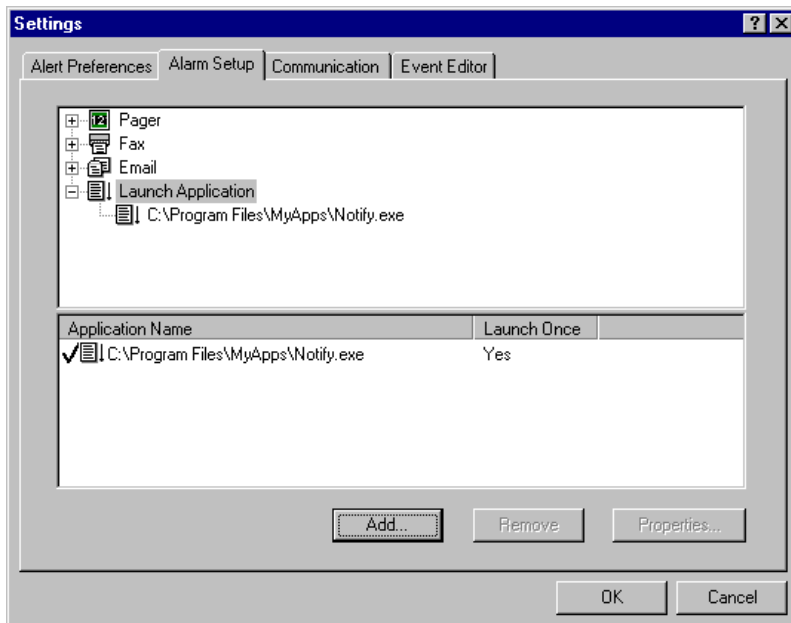

Figure 3-27. Launch Application Alarm Setup
1. Select the Launch Application alarm type in the upper window of the Alarm Setup dialog box (Figure 3-27).
Your new application entry appears in the lower window of the Alarm Setup dialog box (refer back to Figure 3-27 for an example.)